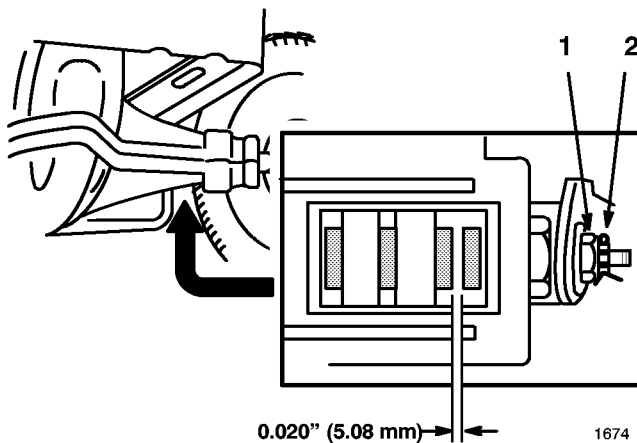

Figure 16
The brake is on the right side of the rear axle, inside the rear tire (Fig. 16). If the parking brake does not hold securely, an adjustment is required.
3. To adjust the brake remove the cotter pin and loosen the brake adjusting nut slightly (Fig. 16).
4. Carefully insert a 0.020" (5.08 mm) feeler gauge between the two outer brake pads (Fig. 16).